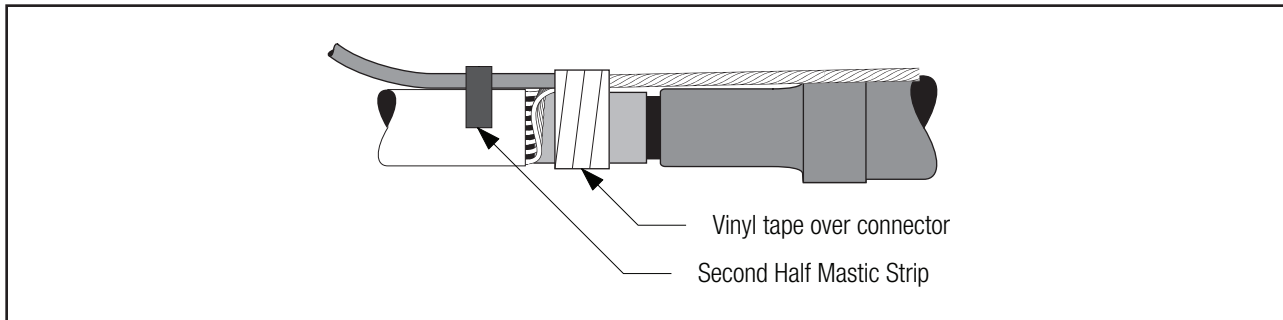

Figure 23
- 6.3 Place the other half mastic strip over ground wire and two rolls. Press the mastic around the ground wire and to the cable jacket. Overwrap the connectors with vinyl tape (*Figure 23*).